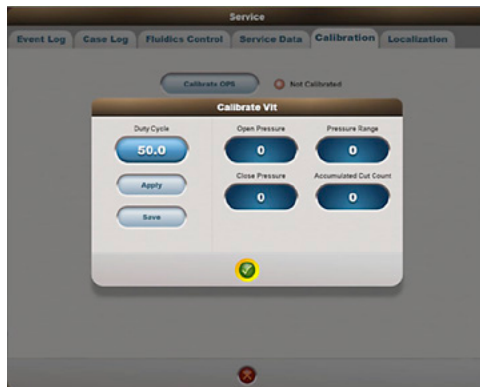

Figure 4-31 The Calibrate Vit Screen in Service Mode
- 12.1.5 Press "Calibrate Vit" button to bring up "Calibrate Vit" Screen (see Figure 4-31).